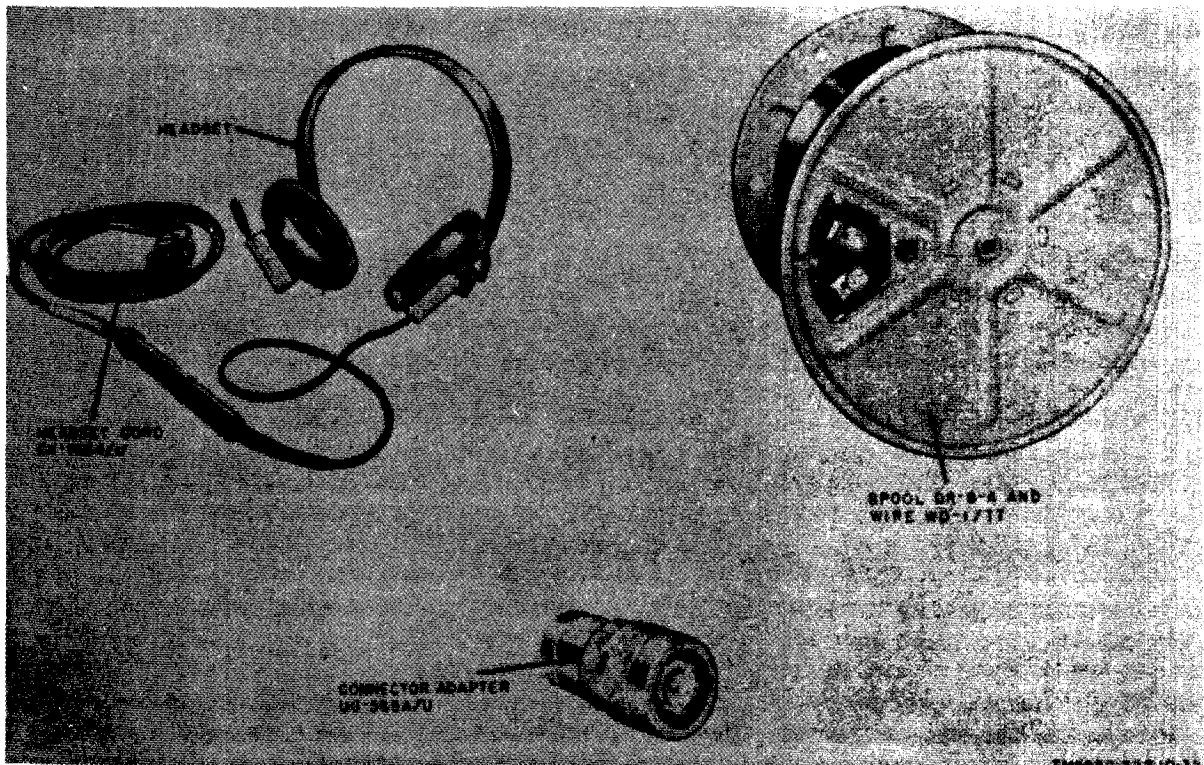
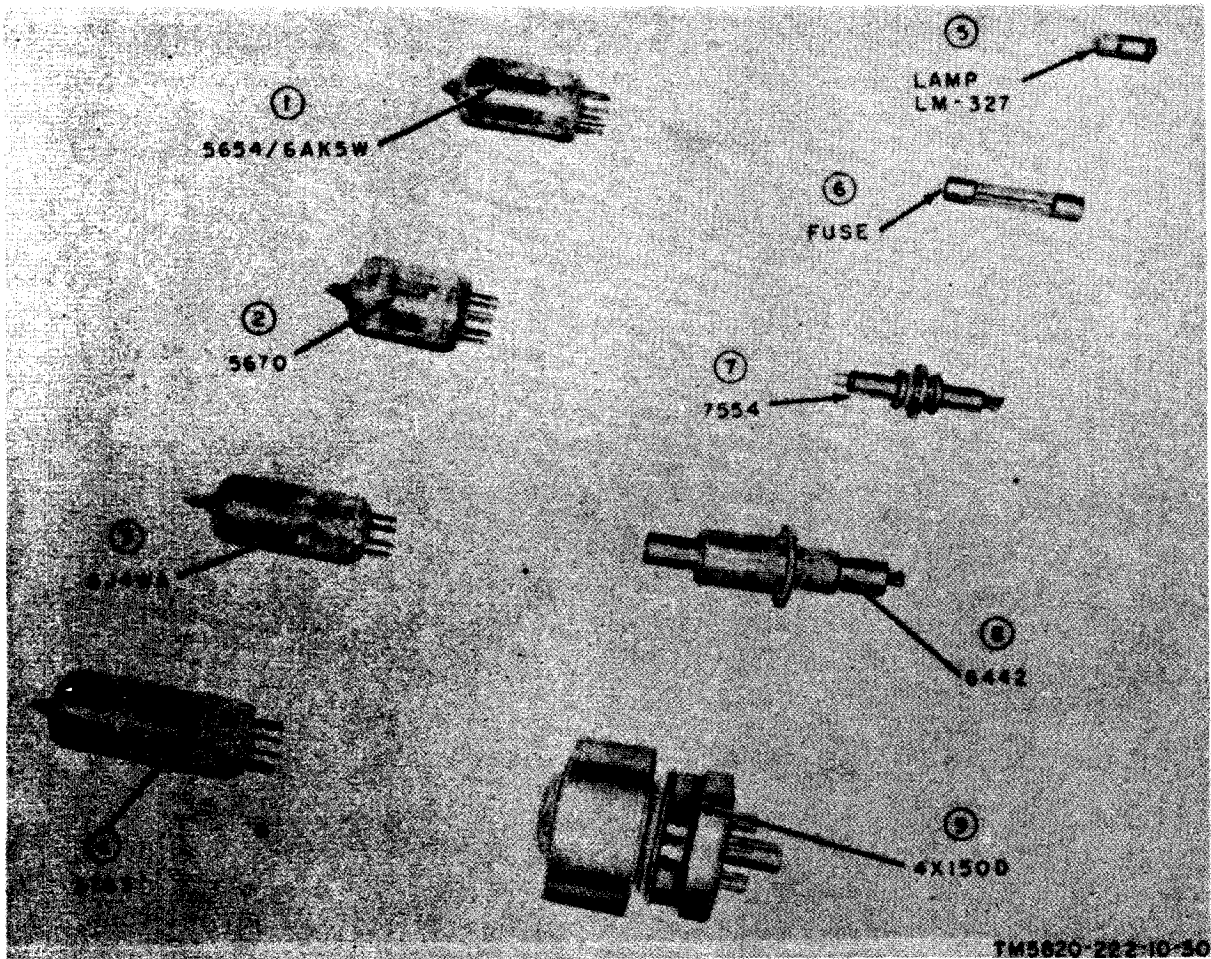

Figure 9. Spool DR-8-A with wire, Connector Adapter UG-565A/U, and headset with cord.
Figure 10. Running spares.
c. *Running Spares* (fig. 10).
The accessory case contains four drawers for storing the accessory equipment described in paragraph 18, Spool DR-8-A and Wire WD-1/TT (fig. 9), the interconnecting cables, spare tubes (fig. 10), and technical manuals supplied as part of the AN/TRC-68.
b. *Headset and Headset Cord (fig. 9).* The headset consists of two series-connected earphones. A 14-inch cord, terminated at the earphones, connects the headset to Headset Cord CX-1334/U. The CX-1334/U is a 5-foot cord which is used to connect the headset to an AUDIO receptacle on the RT-323/VRC-24, RT-441/TRC-68, or radio set control.
e. *Connector Adapter UG-565A/U (fig. 9).* The adapter mates a series C female plug with a series N male plug. It is used to adapt the ANT connector on the RT-441/TRC-68 to the cable from Antenna Assembly AT-197/GR.